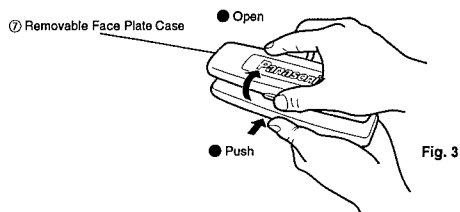

Fig. 3
- As shown in Fig. 3, gently push the lower side of the case and open its cover. Keep the removable face plate in the case. Then, you can bring the plate safely.